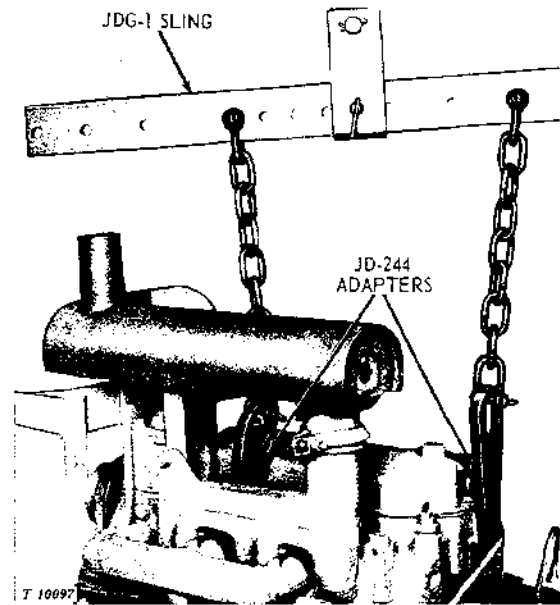

Fig. 20-5-5—Sling for Lifting Engine
16. Install two JD-244 adapter tools on engine cylinder head (Fig. 20-5-5).
17. Place JDG-1 sling on a hoist and attach sling to engine adapter tools as shown in Fig. 20-5-5.